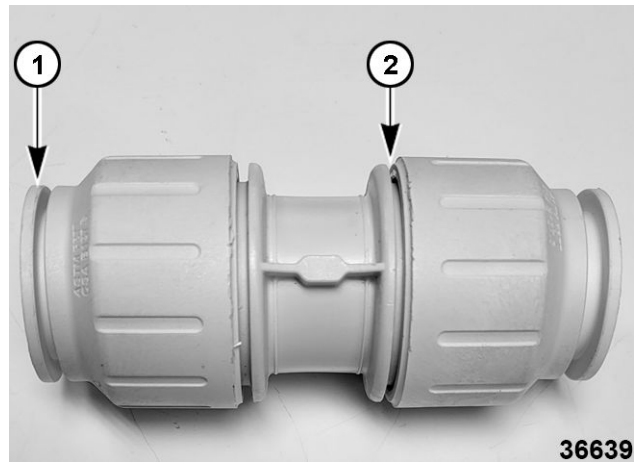

Fig. 94
**NOTE:** When unlocked, release rings (1, Fig. 94) are loose and can be compressed, and there is a gap (2, Fig. 94) between nuts and fitting body.